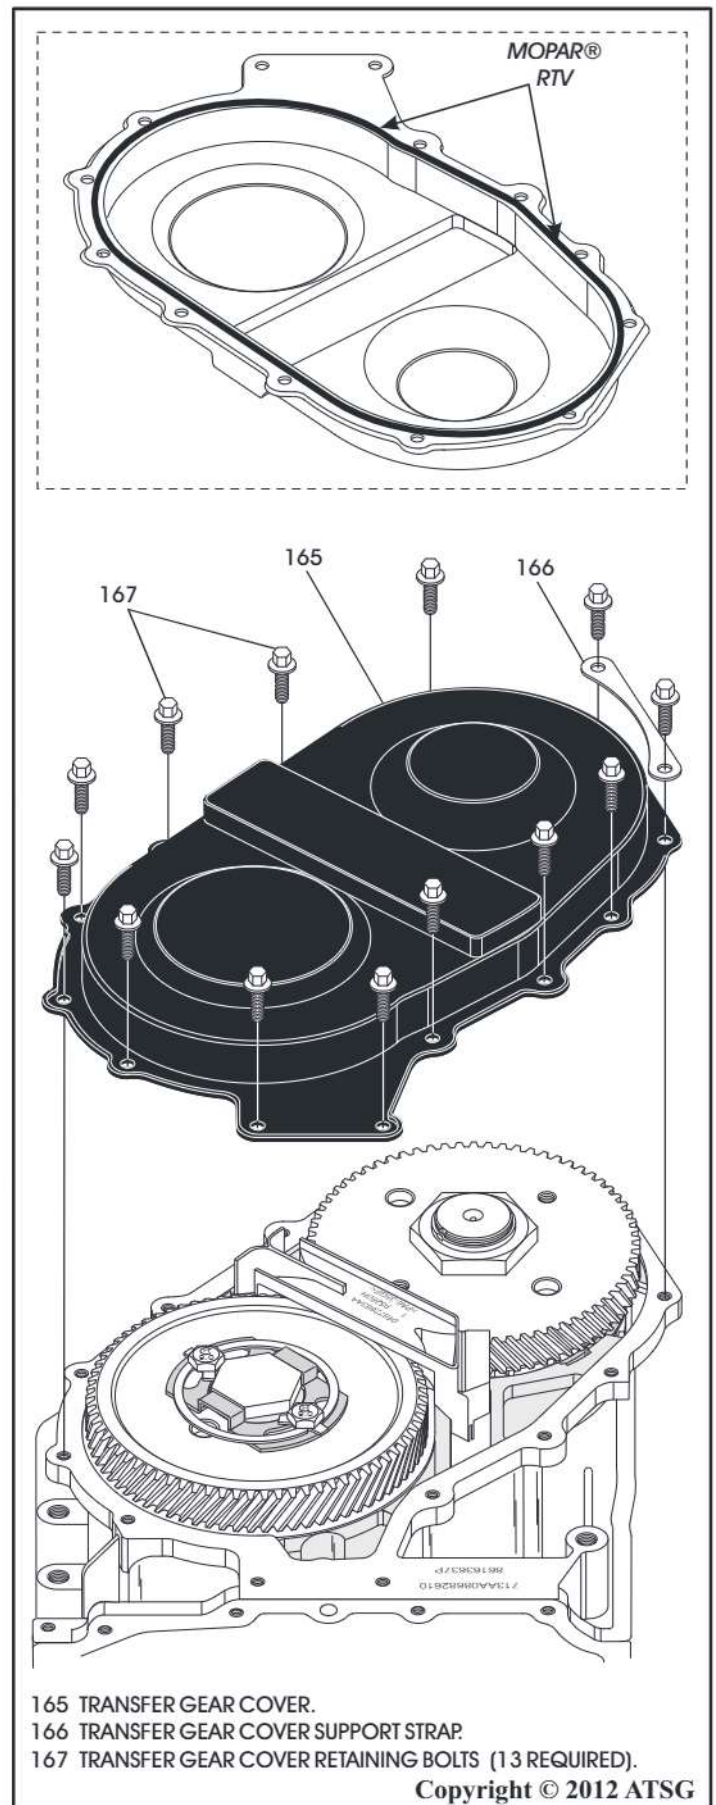

Figure 241
21. Install a bead of Mopar® RTV, or equivalent, on transfer gear cover, as shown in Figure 241.
22. Install the transfer gear cover to the case, as shown in Figure 241.
23. Install the 13 transfer gear cover retaining bolts and the gear cover support strap (166), as shown in Figure 241.